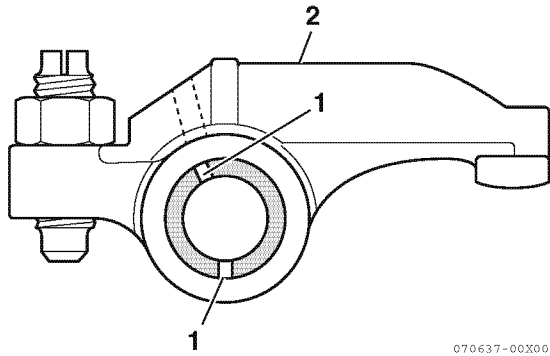

Figure 6-31
Ensure the lubrication holes in the rocker arm shaft (Figure 6-31, (1)), are oriented correctly with respect to the rocker arms (Figure 6-31, (2)).